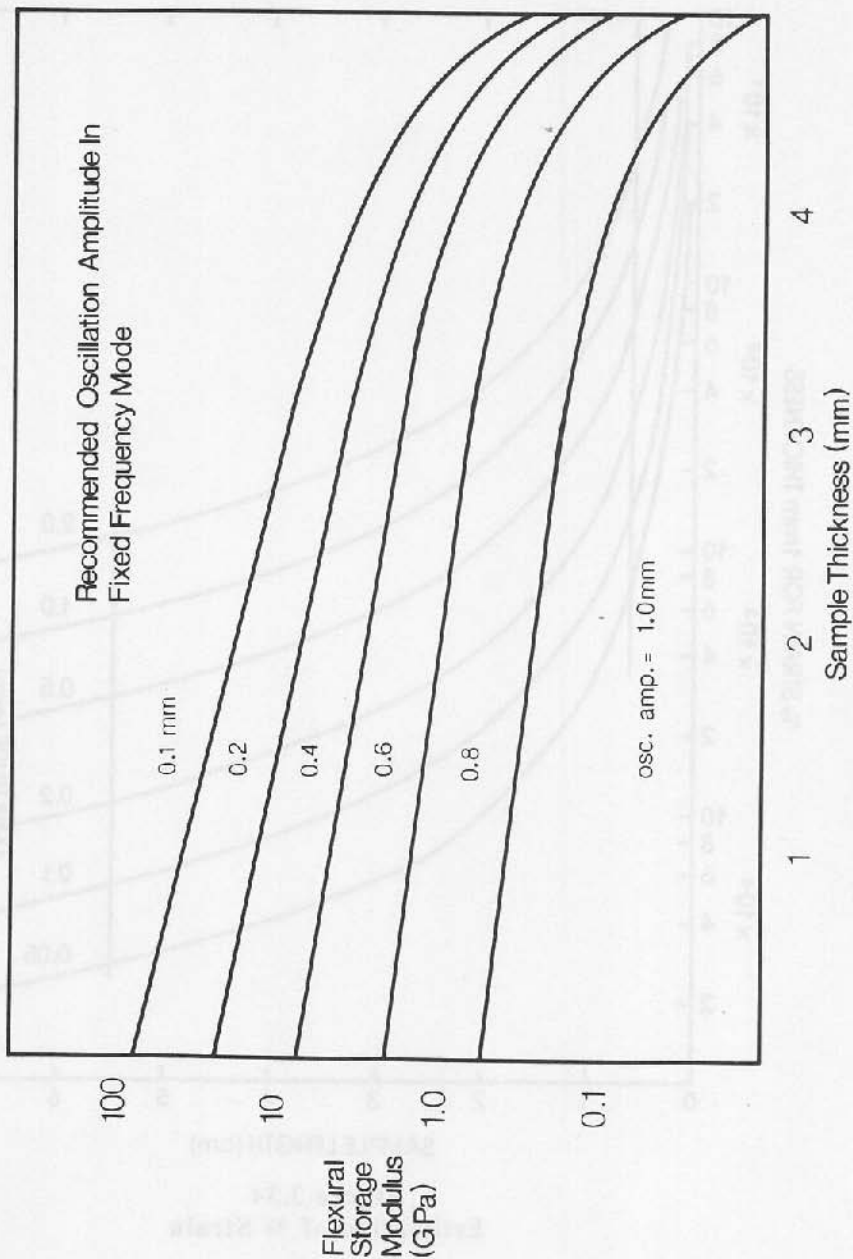

Figure 3.33
5. The recommended experimental or module parameters for analyzing a sample in the fixed frequency mode are: Osc Amplitude which should be increased by a factor of 2 or 3 to what is normally used in the resonant mode. See Figure 3.33.